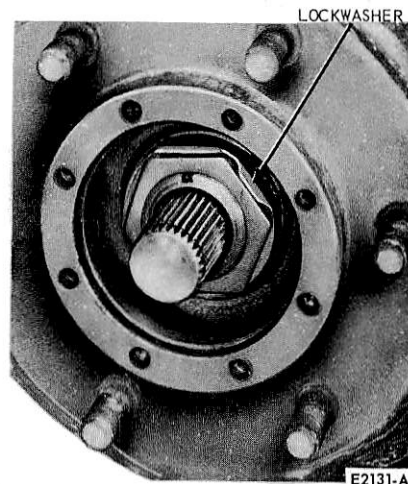

FIG. 5 Lock Nut and Washer Assembled
4. Bend the tab of the lock washer away from the lock nut and remove the lock nut (Fig. 5).